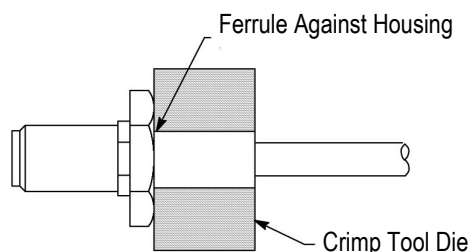

Figure 4
- Insert the center contact into the back of the housing until it is firmly seated. DO NOT allow the cable braid to enter the housing. Refer to Figure 4, Detail A.
7. Slide the ferrule over the cable braid and against the housing. Hold the cable firmly in position, and crimp the ferrule. Trim excess cable braid strands. See Figure 4, Detail B.